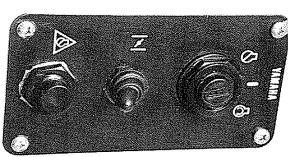

Figure 5
**The Ignition Switch.** See figure 5.